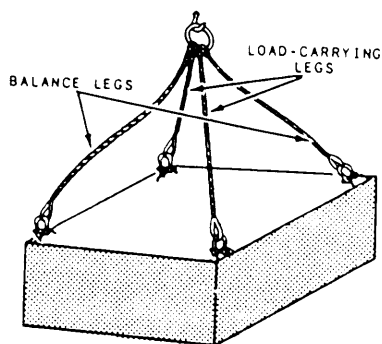

Figure 13-50.—Multi-legged bridle sling lifting a load.
18. When using a multi-legged bridle sling, do not forget it is wrong to assume that a three- or four-leg hitch will safely lift a load equal to the safe load on one leg multiplied by the number of legs. With a four-legged bridle sling lifting a rigid load, it is possible for two of the legs to support practically the full load while the other two only balance it (fig. 13-50).